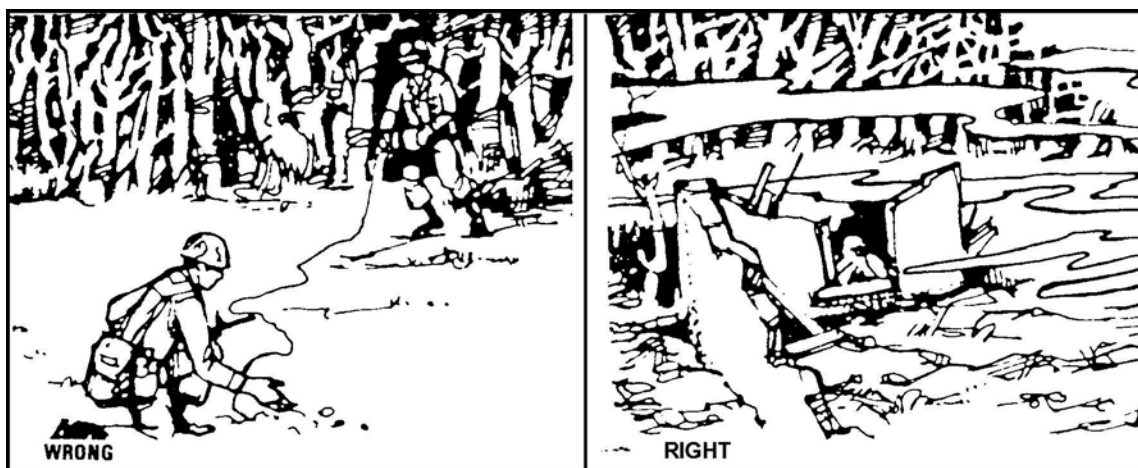

Figure 2. Camouflage of communication lines.
- a. Wire is the primary means of communication with an OP and may be supplemented by radio. Wire and radio antennas should be carefully positioned and camouflaged to avoid detection by the enemy (Figure 2).